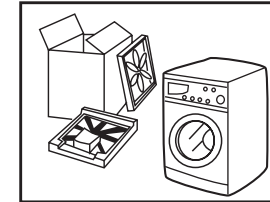
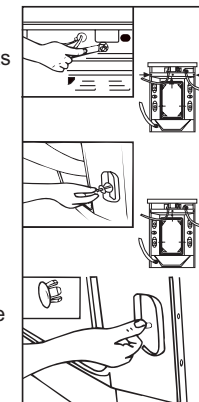

Fig. 1
Fig.2
- Remove all the packing materials (including the foam base) to prevent vibration during use, as shown in Fig.1. Upon opening of the package, water drops may be seen on the plastic bag and the porthole. This is normal phenomenon resulting from water test in the factory.
- Dismantle the packing bolts as shown in Fig. 2.
<p>3. Clean the detergent compartment regularly. For the detergent compartment similar to figure (a), raise the compartment slightly to remove and replace after cleaning.</p>  <p>Fig.(a)</p>	<p>4. Clean the filter Cleaning methods (once a month)</p> <ol style="list-style-type: none"> 1) Push out the outer cover (Fig. 1); 2)Screw out filter by turning counterclockwise (Fig. 2); 3) Flash clean with running water; 4) Replace the filter by turning clockwise and remount the cover. <p>Caution: The filter must be in place, or it may lead to leakage.</p>  <p>Fig1</p>  <p>Fig2</p>  <p>Fig3</p>